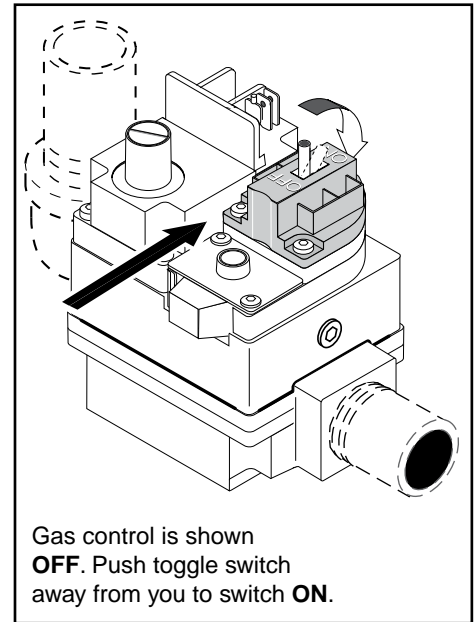

Figure 1.
6. **Toggle-Style Valve:** Pull toggle toward you to turn gas off , see Figure 1.
7. Wait five (5) minutes to clear out any gas. If you then smell gas, **STOP! Follow B in the BEFORE START-UP instructions on page 12. If you don't smell gas, go to the next step.**
4. **Toggle-Style Valve:** Pull toggle toward you to turn gas off, see Figure 1.